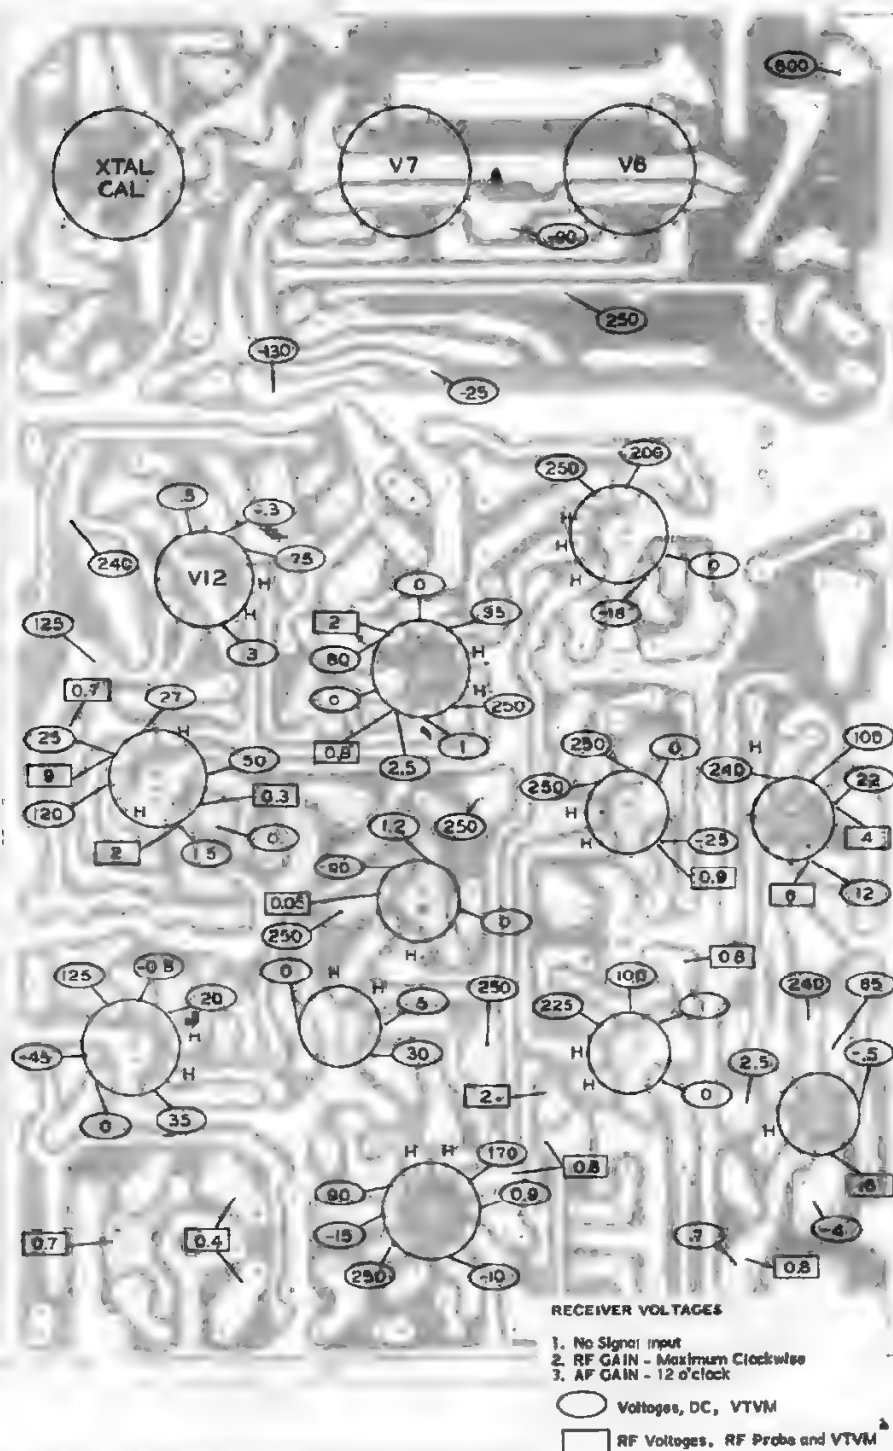

Figure 11
7. If, after careful checks, the trouble is still not located and a voltmeter is available, check voltage readings against those shown in Figures 11 and 12. NOTE: All voltage readings were taken with an 11 megohm input vacuum tube voltmeter. Voltages may vary as much as 10%.